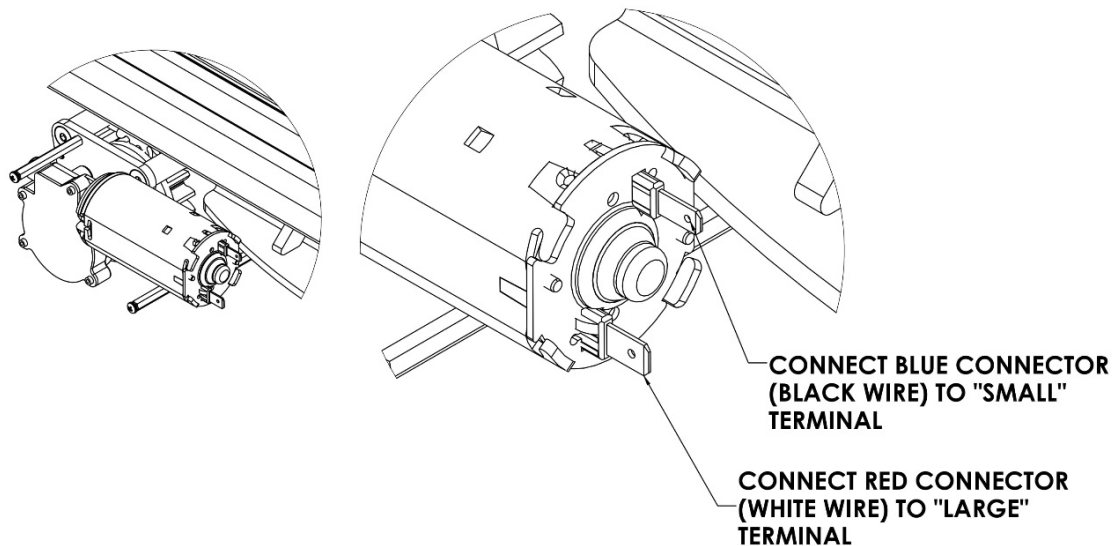

Figure 62: **Short Wire Gantry Motor Connections**
9. Connect the short wire female spade connectors to the gantry motor (Figure 62).